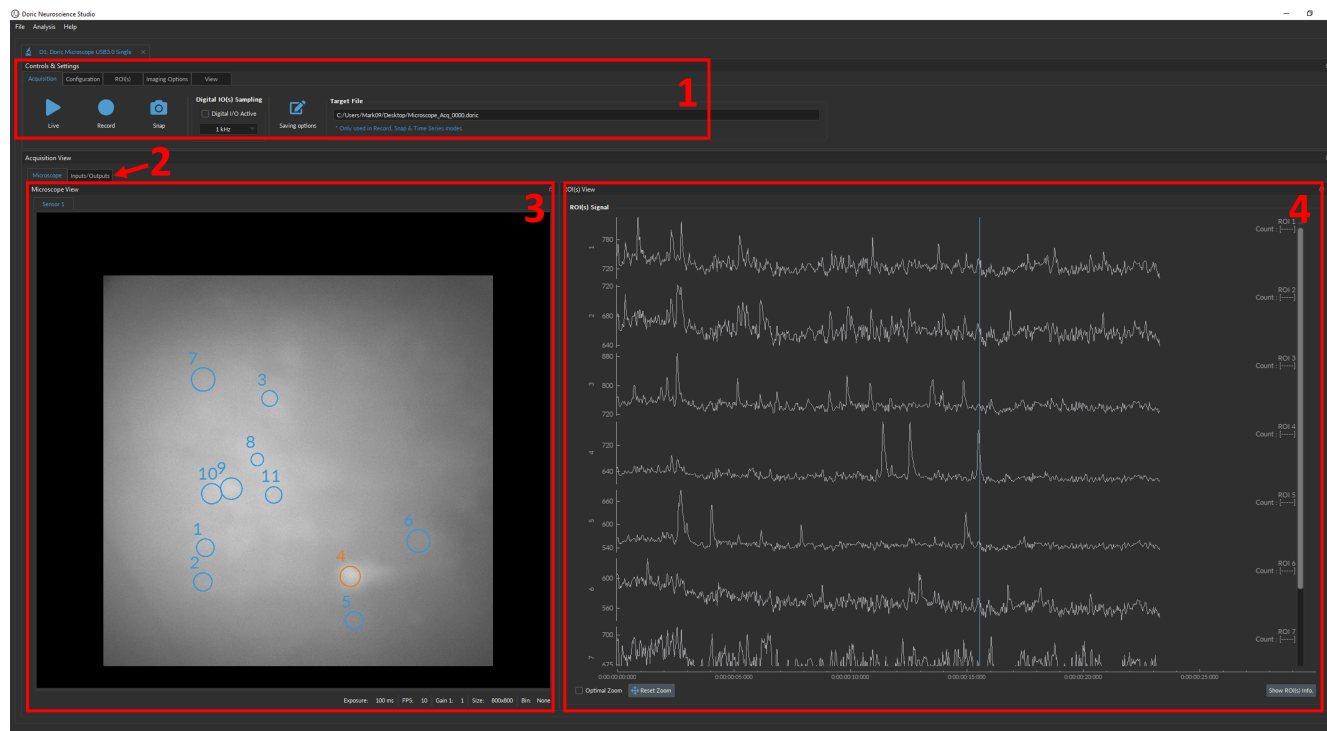

Figure 8.6: *Doric Neuroscience Studio* user interface
The **Microscope Driver** interface (Fig. 8.6) of *Doric Neuroscience Studio* software is split into two sections: **(1) Controls and Settings tabs** (Section 8.3) are used to manage different elements of the software (Acquisition, Configuration, and View); and **(2) the Acquisition view** (Section 8.5) allows simultaneous visualization of both the **Microscope View** (Section 8.5.2) and the **ROIs View** (Section 8.5.3).